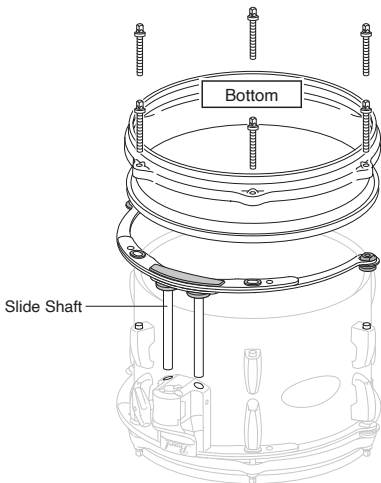

Fig.3
3. How to install the R2 Air Suspension System Lower Section to the Upper Section and onto the bottom of the drum shell. Insert the Slide Shafts of the Lower Section into the Upper Section and onto the drum shell (Fig.3).